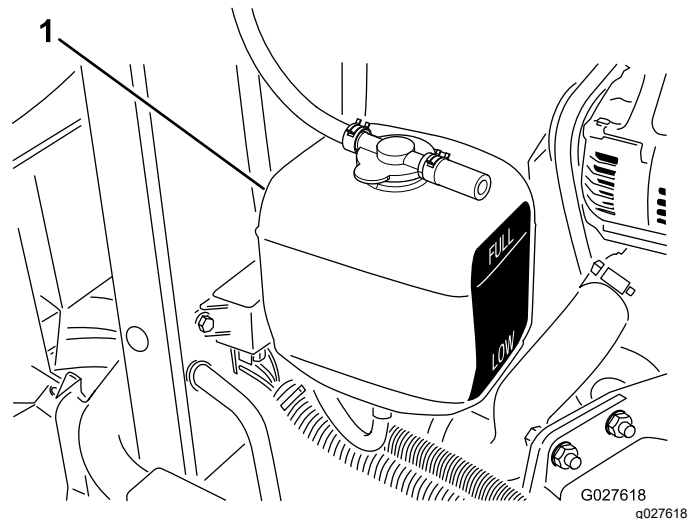

Figure 68
2. Check the coolant level in the expansion tank (Figure 68).